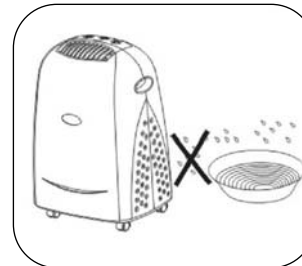

FIG.3
- Do not use in wet environments (fig 3).